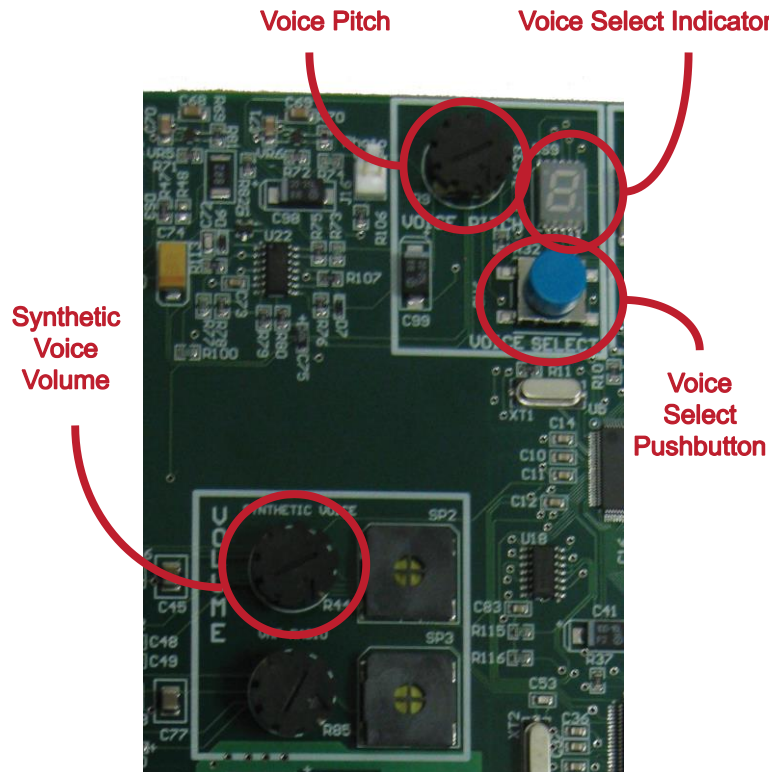

Figure 16: Setting up the Tone
Tone Setup. A burst of two tones is transmitted (if not disabled) whenever the airport lights are activated and voice data is not available or is disabled. The frequency of the tone can be selected by pressing the Voice Select pushbutton shown in Figure 16. This can be used to differentiate between transmissions from two different airports located near each other, or simply allows selection of the most pleasant tone.
3. Set the Synthetic Voice Volume level to an appropriate level that can be heard (normally full clockwise) (Figure 16).
4. Press and release the Voice Select pushbutton (Figure 16) to cycle through xx available tones.
- b. Each subsequent press of the Voice Select pushbutton within 10 seconds will select the next available tone, which can be heard in the speaker. A number designating which tone is selected will be displayed in the numerical display (Figure 16). If desired, this number can be recorded to document the Lighting Controller configuration.
5. When the desired tone is selected, wait 10 seconds for the numeric indication (Figure 16) to go blank, indicating that the current selection is stored.
2. Set the Synthetic Voice Volume level to an appropriate level that can be heard (normally full clockwise) (Figure 16).
3. Press and release the Voice Select pushbutton (Figure 16) to cycle through 11 available voices.
- b. Each subsequent press of the Voice Select pushbutton within 10 seconds will select the next available voice, which can be heard in the speaker. A number designating which voice is selected will be displayed in the numerical display (Figure 16). If desired, this number can be recorded to document the Lighting Controller configuration.
4. When the desired voice is selected, wait 10 seconds for the numeric indication (Figure 16) to go blank, indicating that the current selection is stored.
The pitch of the voice can be adjusted by turning the Pitch Adjust knob (Figure 16). Rotating the knob to the right will increase pitch. As the knob is rotated, the Lighting Controller will echo the airport location in Speaker SP2. (Ensure the volume of the speaker is set to an audible level (Figure 16.) A numerical value is assigned to each setting, and is displayed for xx seconds as shown in Figure 16 whenever the pitch is adjusted.
1. Set the Synthetic Voice Speaker level to an appropriate level that can be heard (normally full clockwise) (Figure 16).
2. Press *and hold* the Voice Select pushbutton (Figure 16) for at least 2.5 seconds. Release the button when you hear the Lighting Controller say "Normal," "Caution," or "Warning," which is the current message mode setting.